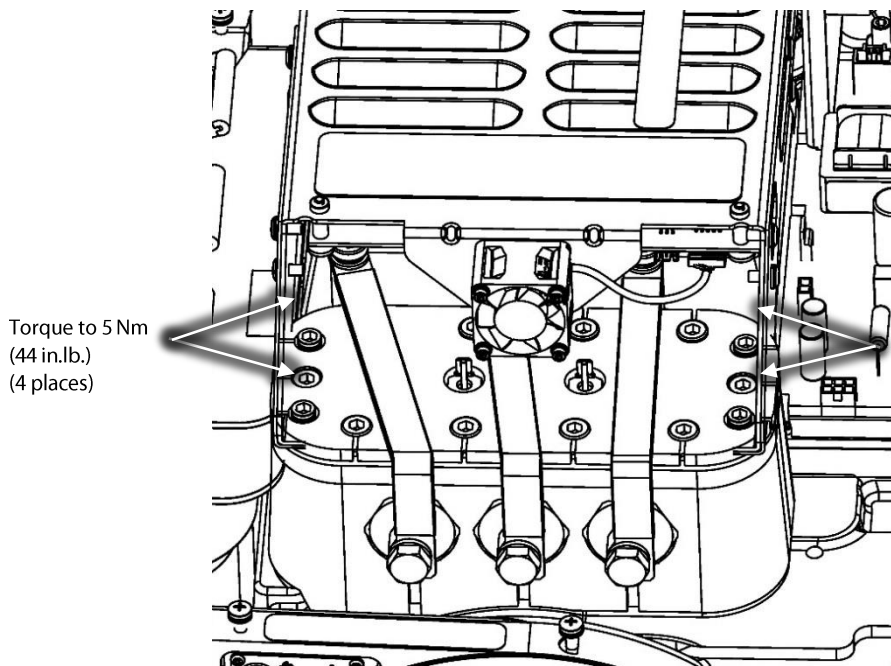

Figure 2 – Soft Start Mounting Screws
- Remove the four (4) M5x15 fasteners that secure the Soft Start mounting bracket to the compressor. Refer to Figure 2 (Soft Start Mounting Screws).
7. Reconnect the Soft Start Temperature Harness. Refer to Figure 2 (Soft Start J9 Connector).